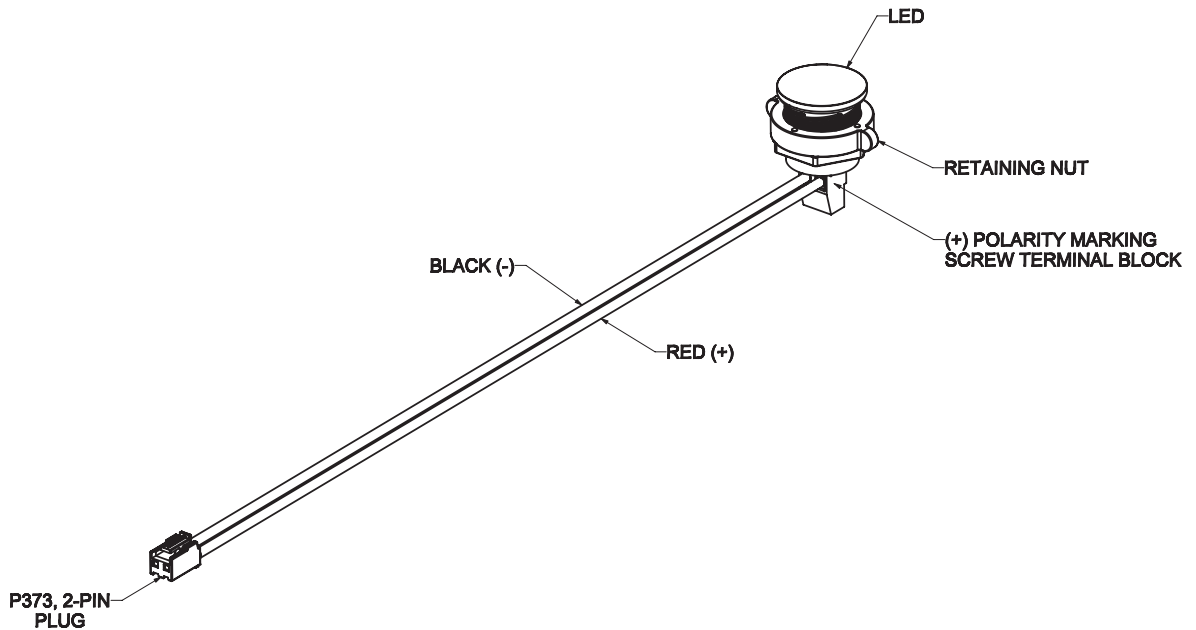

FIGURE 2
- 4 - Remove the retaining nut from the LED assembly. See figure 2.
- 4 - Remove retaining nut from LED assembly. See figure 2.
- 4 - Disconnect wires from the LED screw terminal block. See figure 2.